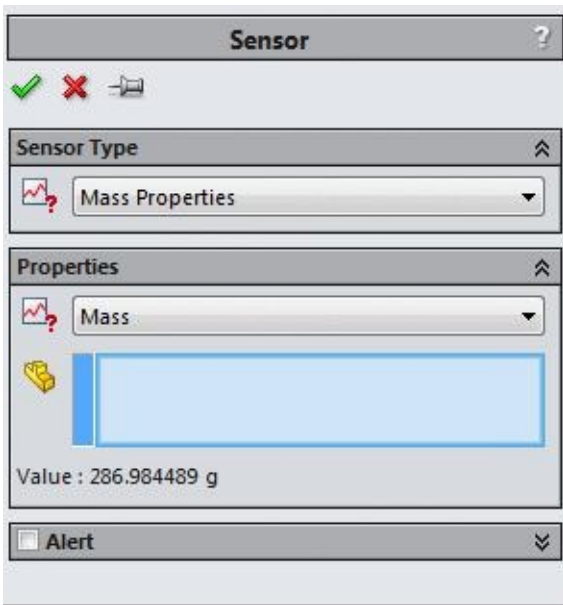

Figure-28. Sensor PropertyManager for goals
- Click on the **Add Sensor** option. The **Sensor PropertyManager** will be displayed as discussed earlier; refer to Figure-28.